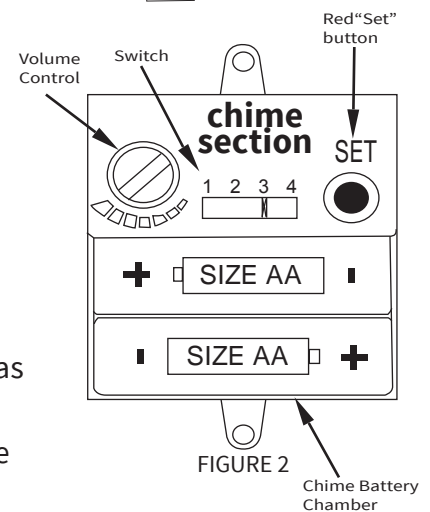

FIGURE 2
2. Insert 2 x AA Batteries as shown (Figure 2). Ensure that the positive (+) and negative (-) symbols are aligned as shown.
5. Your clock will play the 'Westminster' chime and 'strike' six times indicating 6:00am.Your clock is now set to the correct chiming sequence 3 (Figure 2).
5. Once the battery is removed, the chime box will be automatically initialized. After reloading, it will be reported again from 6:00 in the morning. (Figure 2)
- a. Rotate the volume button (Figure 2) to the maximum position.
- b. Check whether the positive and negative positions of the battery are correct (Figure 2). If it is inaccurate, please reinstall it according to the icon.
- d. Or use the Red button on the Chime box (Figure 2) to solve problem as (c.) above, each time you press, no more than 8 times, you can hear the time and music. The time signaling this time is 6:00 AM. And then, press the red button to match the clock time. After that turn Hand Set Knob to adjust the clock hands clockwise to the actual local time.
2. The clock telling time is inconsistent with the displayed time. It can be adjusted by the Red button (Figure 2) on the Chime box. Each time you press it, an hour will be added, and so on. Note that the Red key is after 12 o'clock, and it is 1:00 when you press it again.
4. The time is not reported at 10 o'clock during the day, but reported 10 o'clock at night. The main reason is that the clock defaults to night as day. You can press the Red (Figure 2) button on the Chime box for 12 times to change the time from day to night.